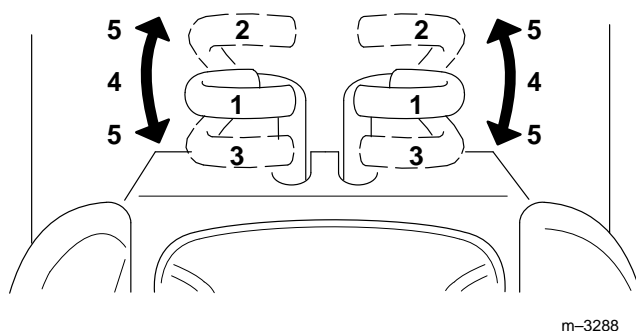

Figure 9
2. To go forward, slowly push the motion control levers forward (Fig. 9).
To go straight, move both motion control levers the same distance (Fig. 9).
To turn move the motion control lever toward neutral, on the side you want to turn toward (Fig. 9).
2. To go backward, slowly pull the motion control levers rearward (Fig. 9).